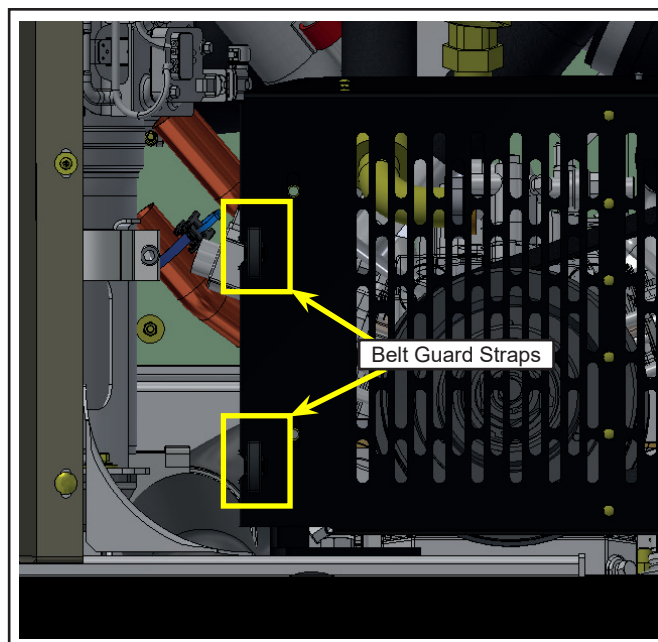

Figure 18 - Closing the Belt Guard Grill
- 1.21. Close the belt guard grill and secure with closing straps (see figure 18).